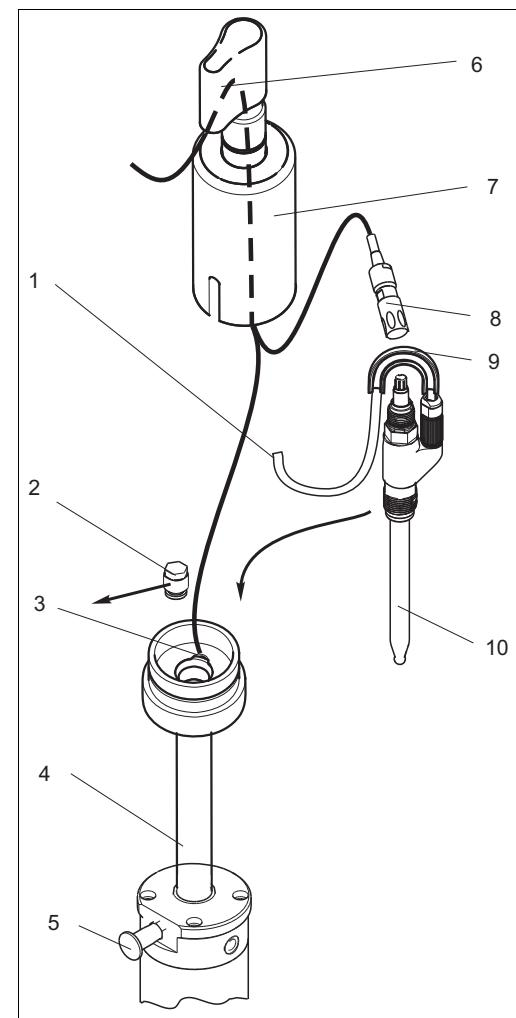

Fig. 16: Liquid KCl electrolyte sensor installation
3. Remove the splash protection cap (→ Fig. 16, pos. 6) and the KCl hood (pos. 7) incl. the protective tube from the assembly.